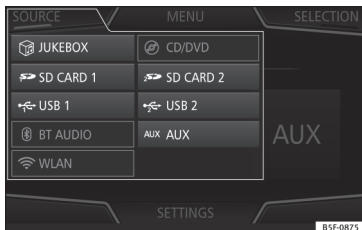

Fig. 169 MEDIA mode: change media source.
- **OR:** From the *Media* main menu, press the **SOURCE** function button >>> **Fig. 169** and select the desired media source.